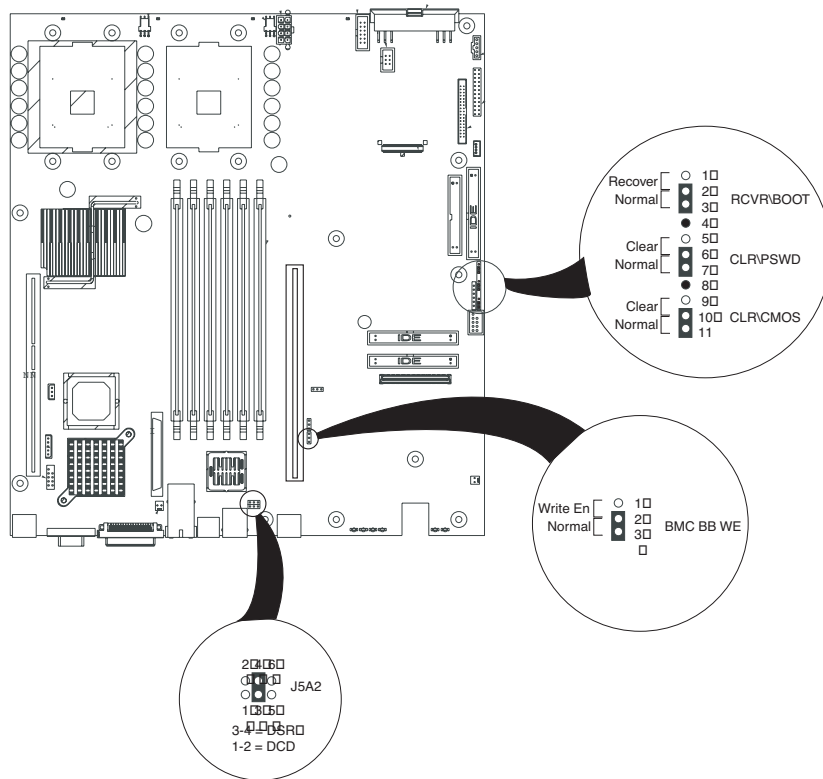

FIGURE 4-40 Location of Recovery Boot Jumper
3. Move the RCVR\BOOT jumper located on the baseboard to the Recover position (see Figure 4-40).